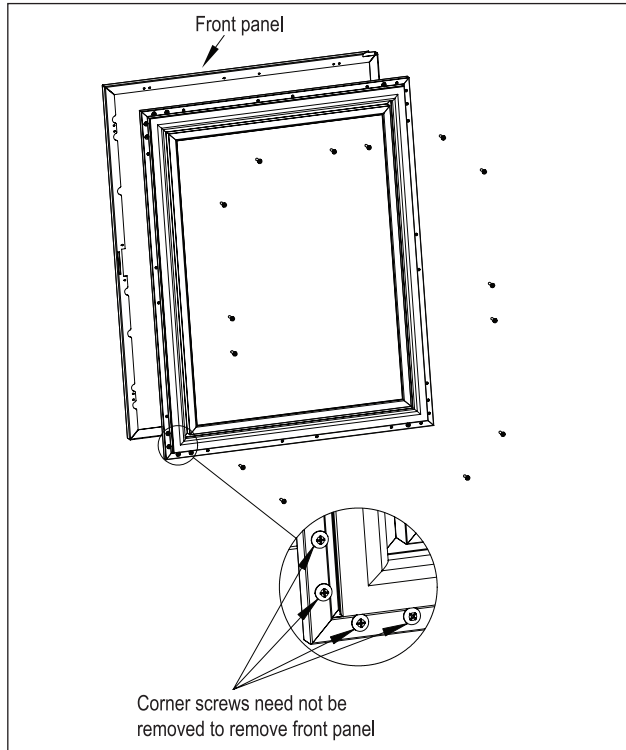

Figure 11. Removing Front Panel
7) Remove the front panel from the door assembly by removing the door gasket and then removing the overlay mounting screws, 4 per side, from the perimeter of the door assembly (Fig. 11). Rotate the front panel 180°. The top becomes the bottom. Reattach using the same screws and mounting holes and then reinstall the door gasket.